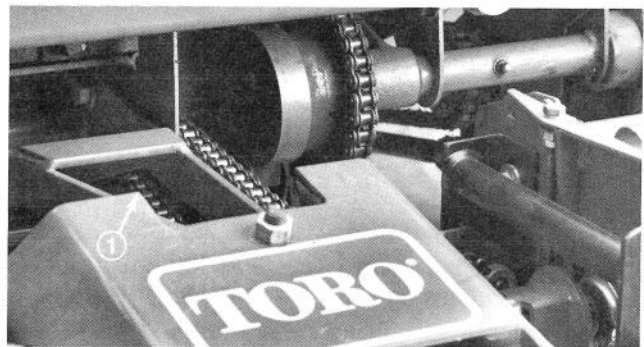

Figure 45
1. Locate adjusting screw below brake lever assembly (Fig. 45).